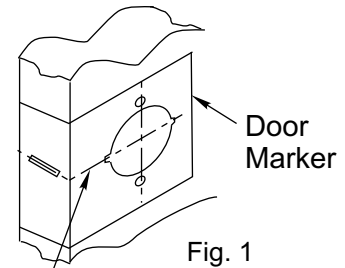

Fig. 1
- Draw a horizontal centerline for the lock on the edge and on both sides of the door at the desired height above the finished floor. Standard height for horizontal centerline is 40-5/16" above finished floor. (See Figure 1.)
- Align the door backset marker with horizontal centerline. Both sides of the door. (See Figure 1.)
- a. Draw a horizontal centerline for the lock on both sides of the door at the desired height above the finished floor line. Standard height for horizontal centerline is 40-5/16" above finished floor (see Figure 1). (You may already have done this in Step A1a Fig.1 pg. 3.)